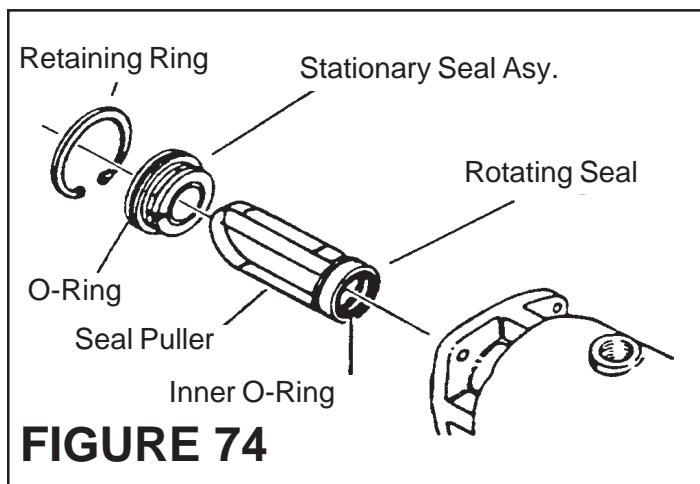

**FIGURE 72**
7. Install Magnetic Base Indicator on Mounting Flange with Gauge on Output Shaft end (Figure 72). Use Pliers to grip Output Shaft as low as possible. Pry Upward to determine Shaft EndPlay. Indicator must read .002" to .007" (.05 to .17 mm) Shaft endplay. If endplay is incorrect, adjust by adding or removing Shims under Bearing Cup in End Cover.